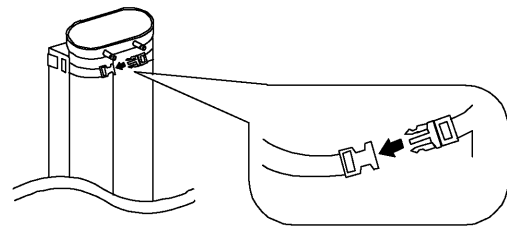

Fig.2
4. Fix the ion exchange resin cartridge and high-purity cartridge with the band of receiver. (See Fig.2.)